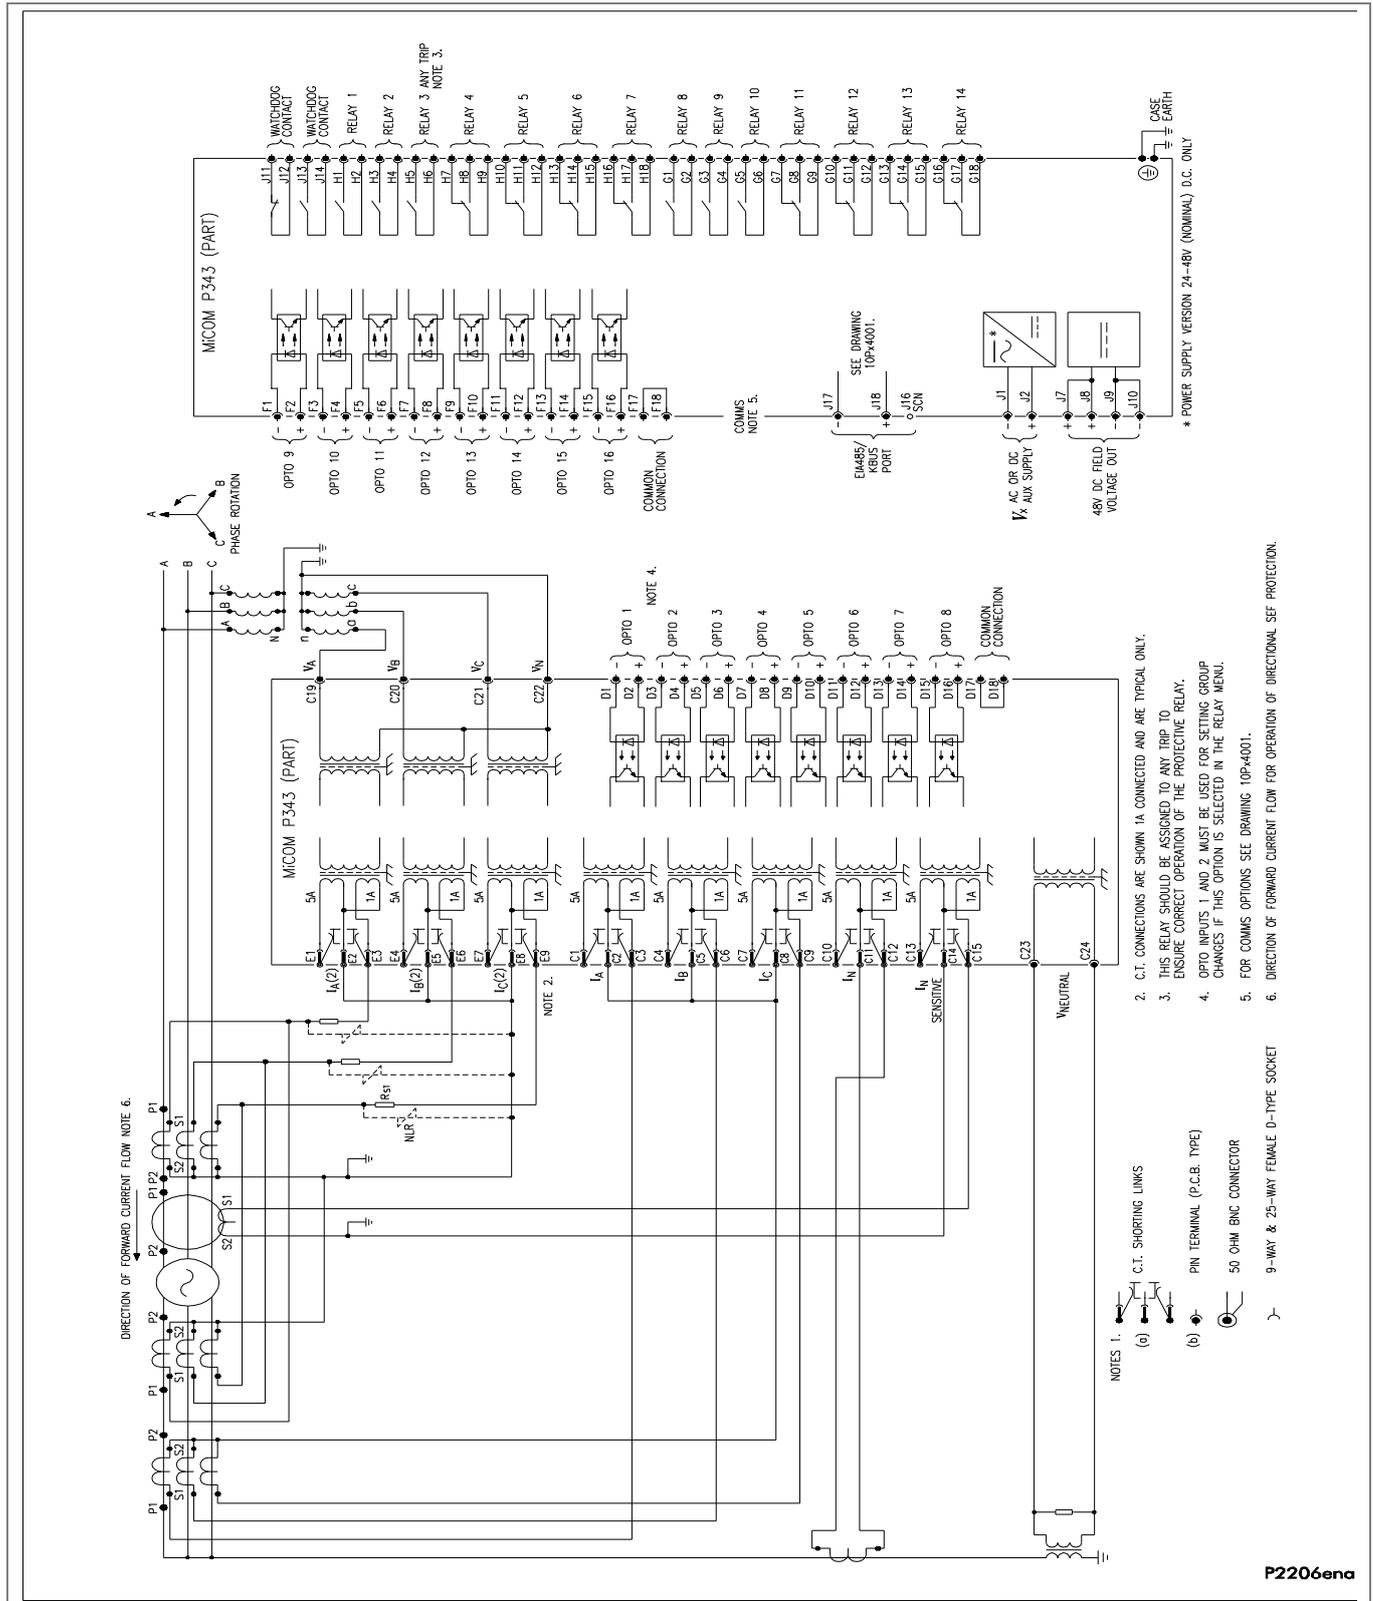

Figure 24 - P343 (60TE) with high impedance differential (16 I/P & 14 O/P)
- Figure 24 - P343 (60TE) with high impedance differential (16 I/P & 14 O/P)